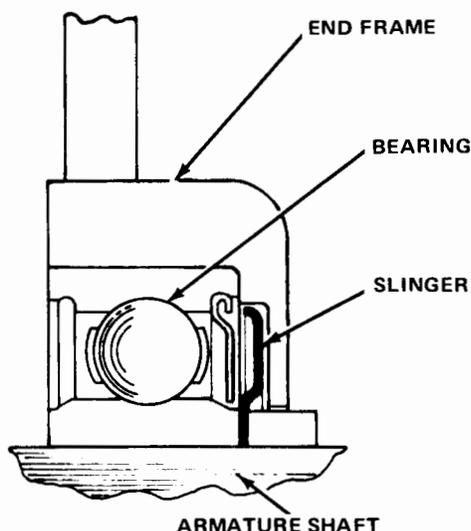

Fig. 3-36 Drive End Bearing Assembly
(1) Assemble bearing and slinger into end frame (fig. 3-36).
(2) Press bearing in with the use of a suitable tube or collar that fits over the outer race.